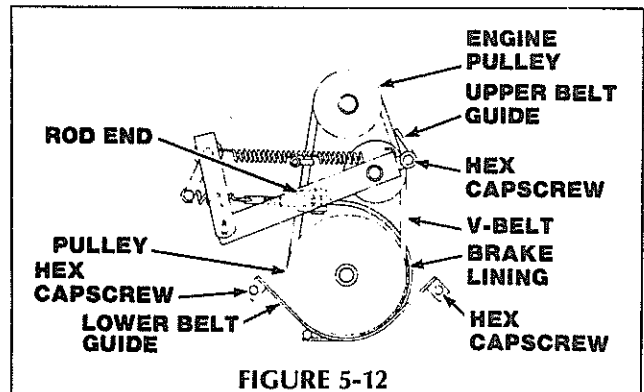

FIGURE 5-12
3. With the P.T.O. lever in the ON position, loosen the hex capscrew which secures the upper belt guide shown in Figure 5-12. Adjust upper belt guide for 1/8 to 1/4 inch (0.31 to 0.62 cm) clearance between belt and belt guide. Tighten hex capscrew securely.
To adjust brake follow these instructions. With PTO handle in the engaged position or ON, adjust rod end, Figure 5-12, to obtain a gap, not more than 1/16" (0.15 cm) between the PTO pulley and the brake lining. PTO pulley must stop within 5 seconds. If not, adjust rod end till stopping time is reached.